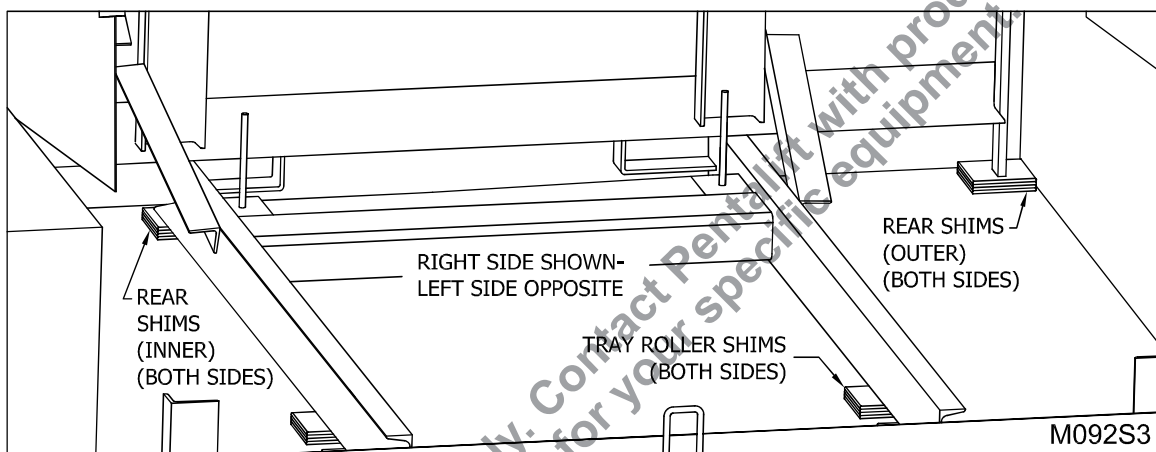

Figure 9: Rear Shims
3. ___ Rear shims (Left and Right side). (See "Figure 9: Rear Shims" on page 29)